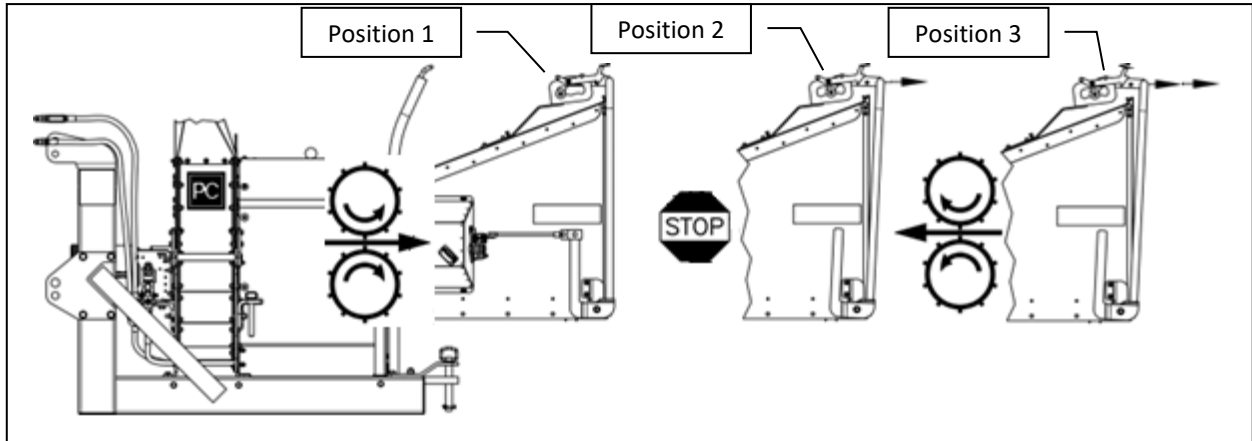

Figure 5
The three positions are described in Figure 5.
When starting the chipper, make sure that the feed roller(s) rotate correctly in relation to the position of the control handle (see Figure 5). If this is not the case, check that the hydraulic hoses are correctly installed. A description of this can be found in Section 7.10ff.
6. Move the control handle to position 3 (see Figure 5).